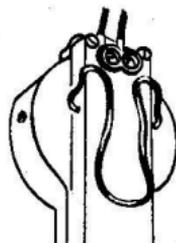

Figure 7. "Belt hook" (optional accessory) behind transmitter.
- Belt hook (see figure 7)D-62117-A